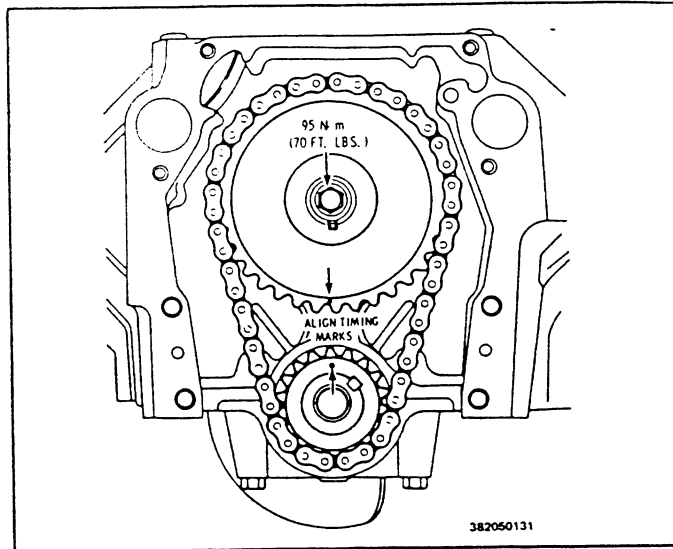

Fig. 49 Aligning Timing Marks
- On a flat surface, place camshaft and crankshaft sprockets into the timing chain with timing marks aligned (Fig. 49).
7. Rotate the crankshaft and align timing marks (Fig. 49).